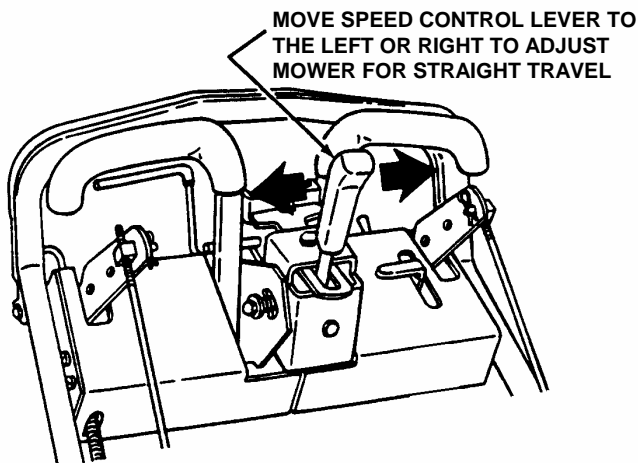

FIGURE 3.4
5. Adjust Speed Control Lever to a comfortable travel speed. See Figure 3.4.
6. Proceed to go forward while allowing the machine to travel in a straight line. If the machine tracks towards the LEFT or RIGHT, it can be brought back to a straight path by moving the Speed Control Lever in the desired direction of travel. See Figure 3.4.
8. Proceed to go forward while allowing machine to travel in a straight line. If the machine has a tendency to track towards the LEFT or RIGHT, it can be brought back to a straight path by moving Speed Control Lever in the desired direction of travel. See Figure 3.4.